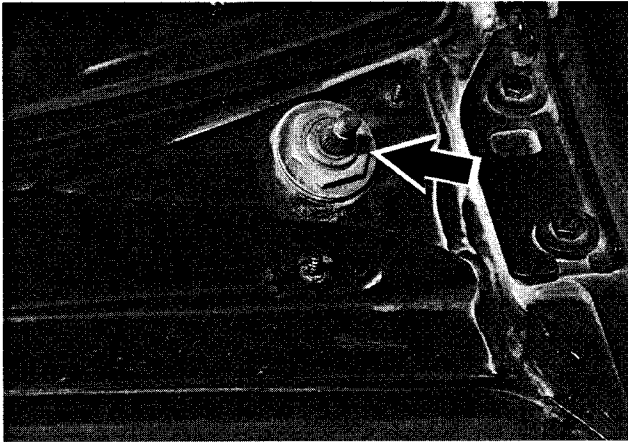

Fig. 9. Wiper shaft nut at cowl (arrow).
9. Remove large nut and washer at base of wiper arm shafts cowl panel. See Fig. 9.